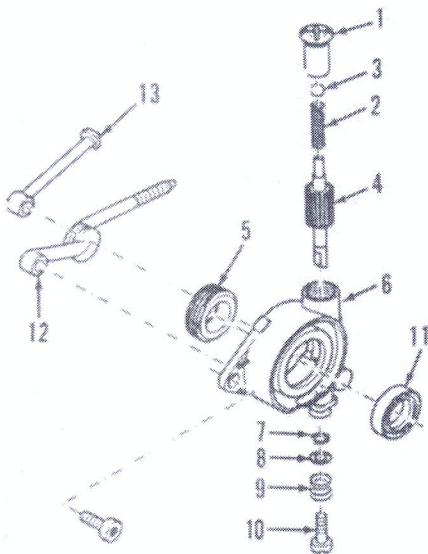

Fig. D115—Exploded view of the automatic chain oil pump, typical of all models.
OIL PUMP. All models are equipped with an automatic chain oil pump typical of the type shown in Fig. D115. Oil is pumped by plunger (4), which is turned by worm gear (5). Pump output is adjusted by turning screw (10).